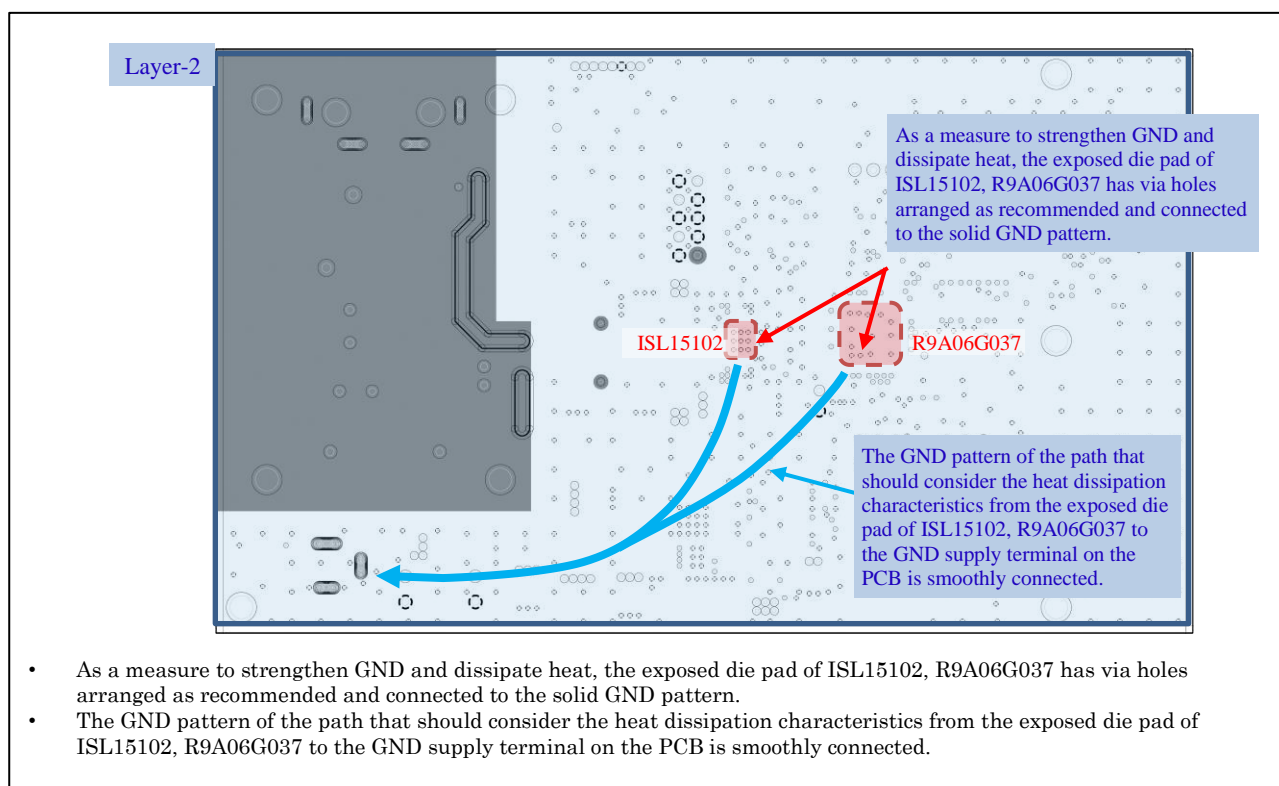

Figure 2-13 Example of connection between exposed die pad of R9A06G037 and ISL15102 and GND pattern (2nd Layer)
- In the GND layer of the 2nd layer, connect the path to the GND supply terminal on the PCB smoothly with the Exposed die pad of R9A06G037 and ISL15102. (An example is shown in Figure 2-13.)